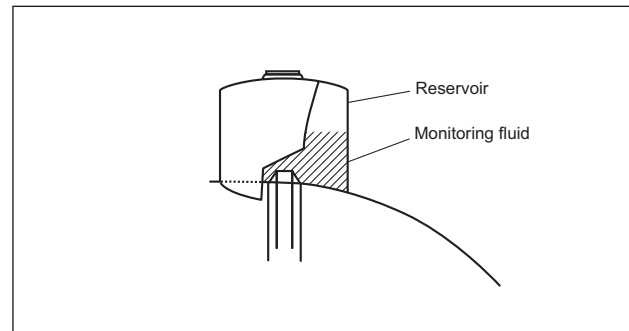

FIGURE 17-1
17.4.1.2. When the tank is delivered, check the monitoring-fluid level and record it on the shipping/receiving paperwork and Tank Installation Checklist. (See FIGURE 17-1.)